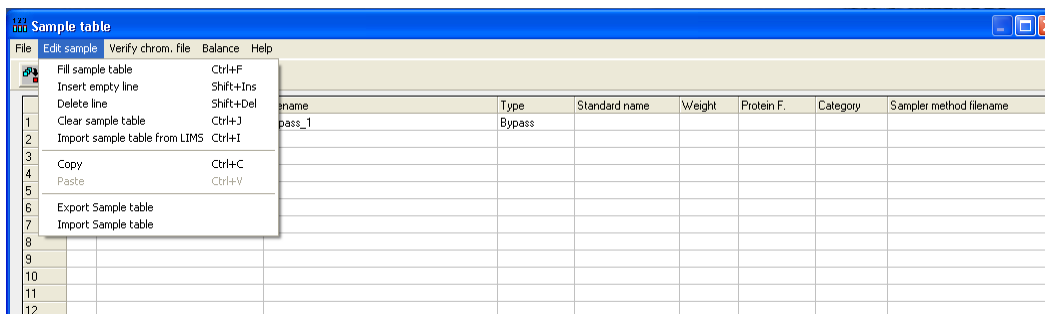

Figure 6. Edit Sample Menu.
2. From the menu at the top of the sample table, select **Edit sample > Import sample table from LIMS** (Figure 6).